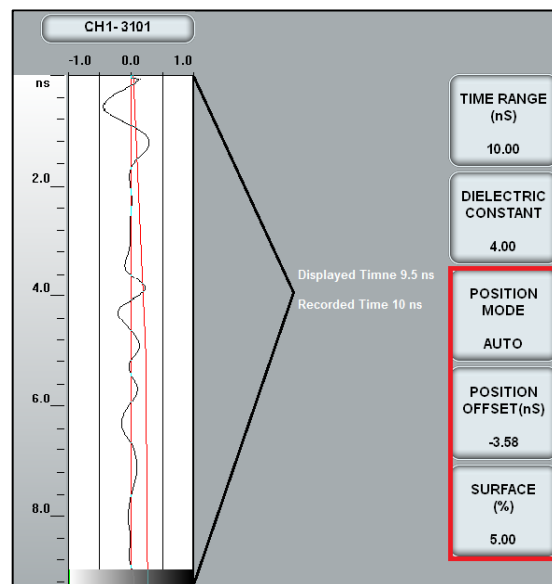

Figure 51: Surface Mode Auto, Surface 5%.
In Figure 51 (below) the Surface percentage has been changed to five (5). The Displayed time is now 9.5 ns; the recorded time is 10 ns.